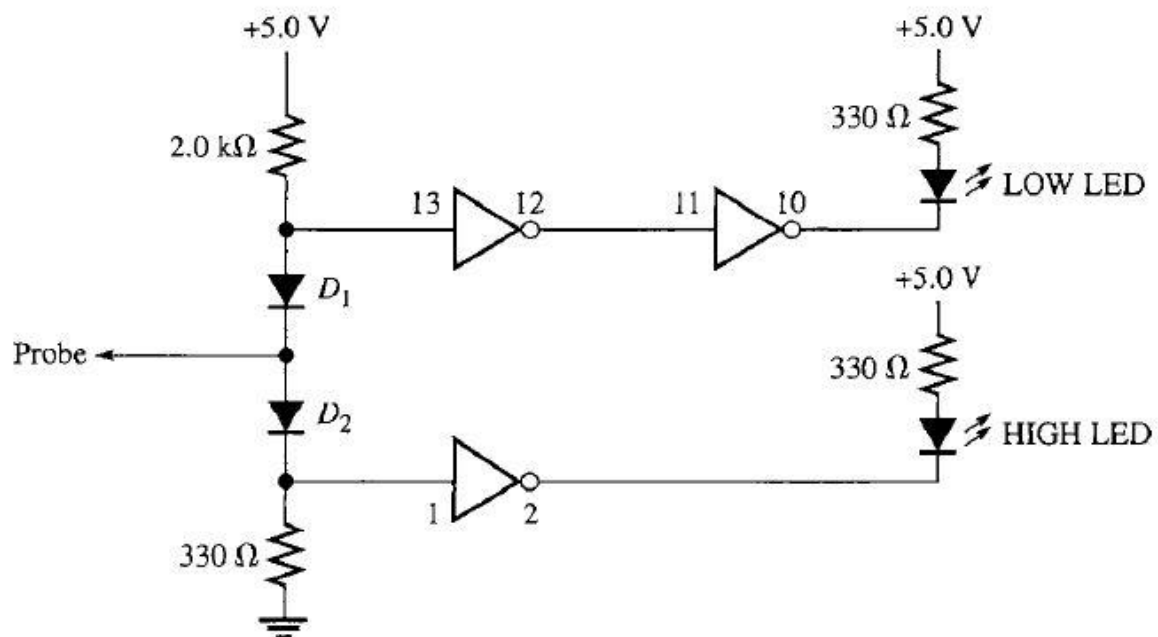

Figure 1.6: A Simple Logic Probe
The circuit in this experiment is a simple logic probe. Logic probes are useful for detecting the presence of a HIGH or a LOW logic level in a circuit. The logic probe in this experiment is designed only to illustrate the use of this tool and the wiring of integrated circuits. The probe shown in Figure 1.6 works as follows: If the probe is not connected, the top inverter is pulled HIGH (through the $2.0\text{ k}\Omega$ resistor) and the bottom inverter is pulled LOW (through the 330Ω resistor). As a result, both outputs are HIGH and neither LED is on. (A LOW is required to turn on either LED). If the probe input is connected to a voltage above approximately 2.0 V , the voltage at the input of the lower inverter is interpreted as a logic HIGH through diode D_2 . As a result, the output of the lower inverter goes LOW, and the lower LED, representing a HIGH input, turns on. If the probe input is connected to a voltage below approximately 0.8 V , the upper input inverter is pulled below the logic threshold for a LOW, and the output inverter is LOW. Then the upper LED, which represents a logic LOW input, turns on. A more sophisticated probe could detect pulses, have a much higher input impedance, and be useful for logic families other than TTL; however, this probe will allow you to troubleshoot basic gates.
1. Using the pin numbers shown, construct the simple logic probe circuit shown in Figure 1.6. Pin numbers are included on the drawing but frequently are omitted from logic drawings. Note that the LEDs and the signal diodes are polarized; that is, they must be connected in the correct direction. The arrow on electronic components always points in the direction of conventional current flow, defined as from plus to minus. Signal diodes are marked on the cathode side with a line. The LEDs generally have a flat spot on the cathode side or are the longer element inside the diode.